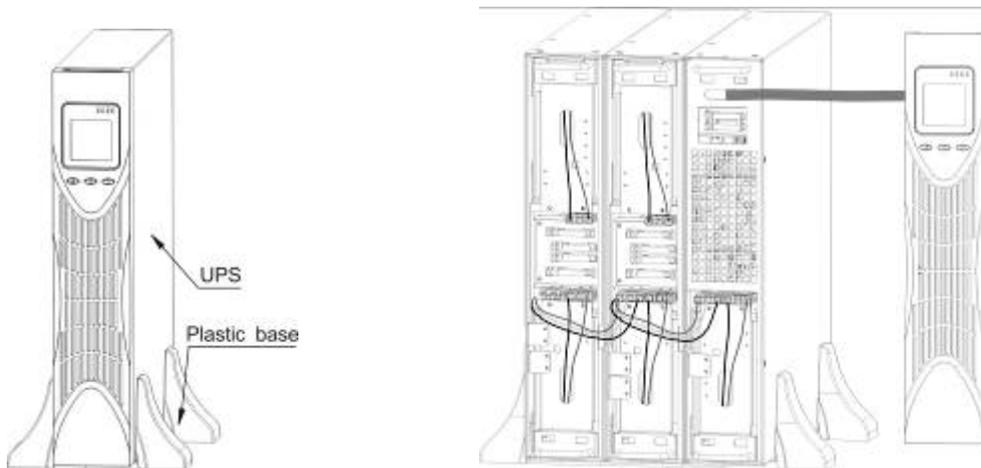

Figure15 The installation for UPS and battery box
2. The installation between UPS and EBPS can refer to Fig.15